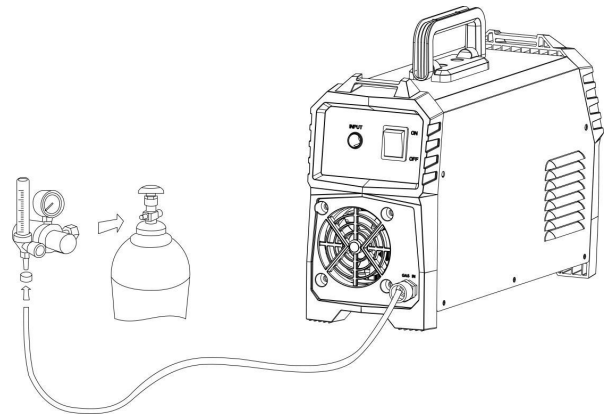

Figure 8 Gas connection
4. Gas connection: connect argon tube with welder back panel's brass mouthpiece tightly. Air supply passage should include argon decompressed flowmeter, gas hose; Be sure to secure the hose connections to avoid poor solder joint protection due to gas leakage or air intrusion. (Figure 8)